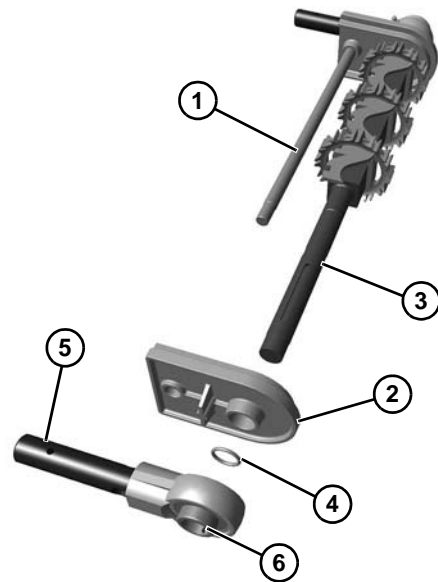

Figure 62
2. Install pinch guard shaft (**Figure 62, item 1**).
3. Slide the tracking plate (**Figure 62, item 2**) onto the drive spindle (**Figure 62, item 3**) and pinch guard shaft.
*When installing tracking plate, be certain O-ring (**Figure 62, item 4**) is installed.*
4. Slide the shaft assembly (**Figure 62, item 5**) onto the drive spindle and tighten set screws (**Figure 62, item 6**) on bearing.